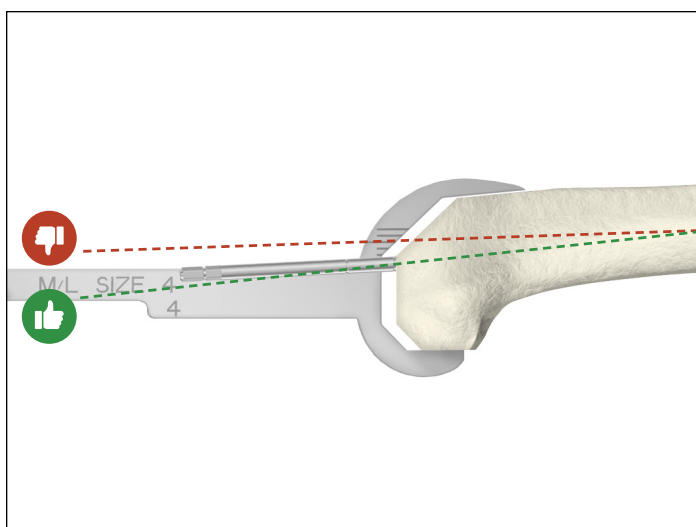

Figure 75
- ▶ **Note:** Use the Triathlon TS sizing templates and epicondylar markings (**Figure 75**) to determine if the IM Reamer is positioned too far anteriorly. If so, flex the reamer to attain a more posterior position (downsize the reamer if necessary).